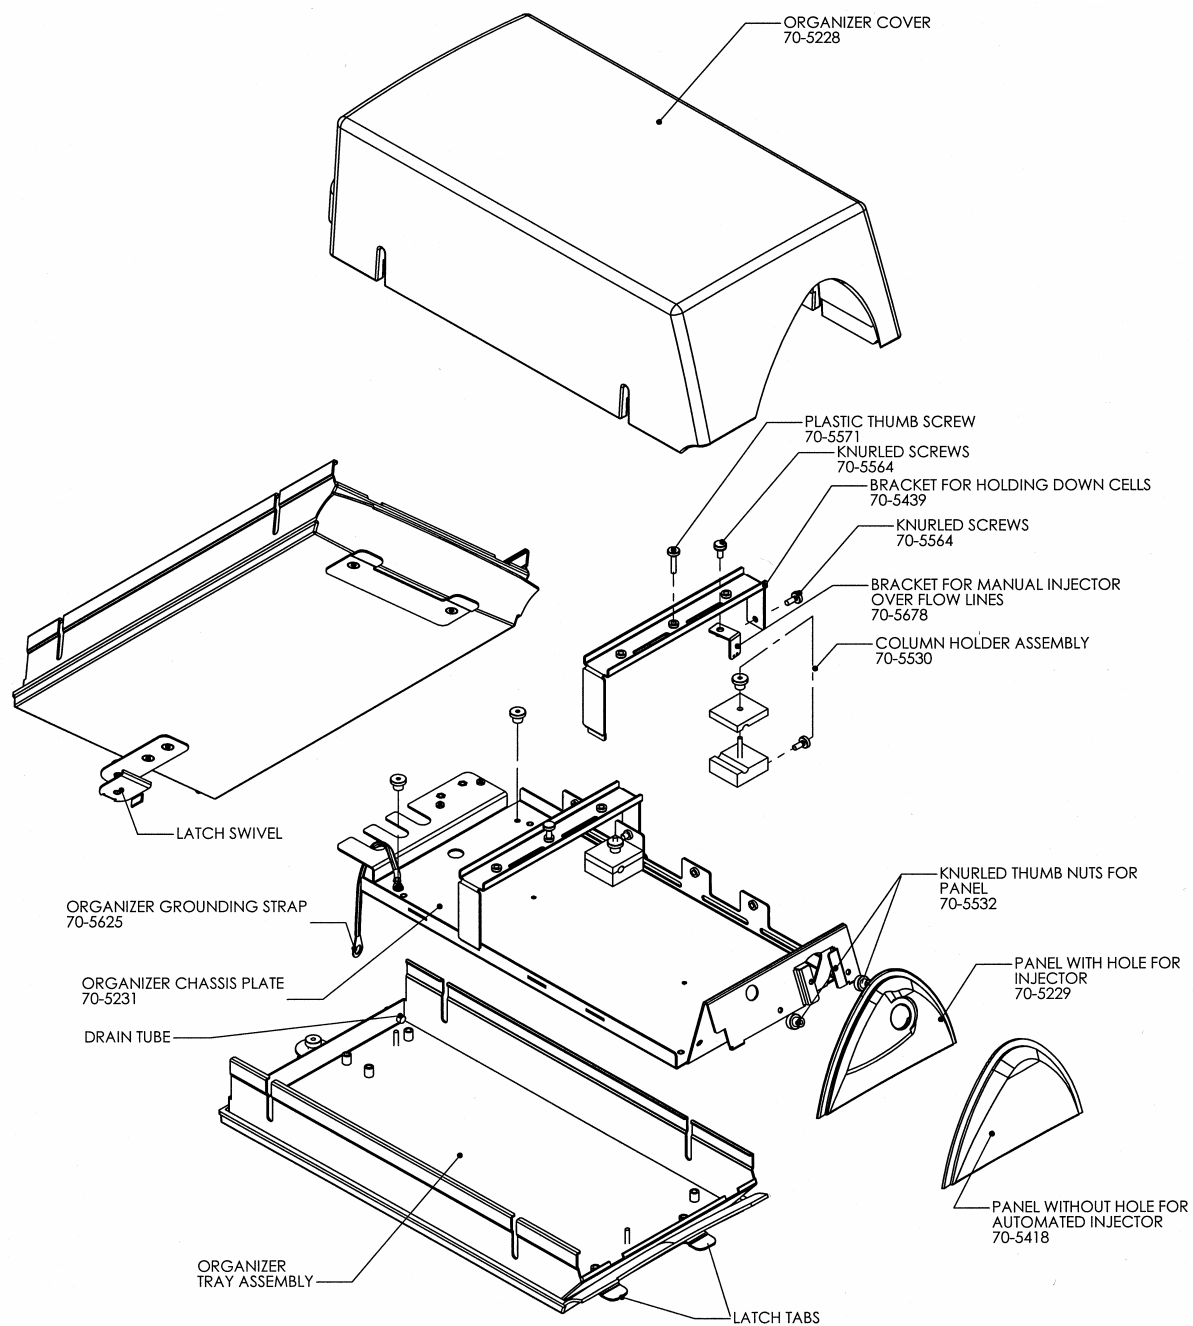

Figure C-1: Exploded View of Corona Organizer Module
The Corona[®] Organizer Module and the Corona Thermal Organizer Module are optional accessories for the Corona[®] CAD[®] and Corona^{®Plus} CAD[®] Detectors, that are designed to accommodate the various components of the fluidics system of the HPLC, such as pulse damper, column(s), in-line filters, a Rheodyne manual sample injector valve, tubing, and associated cables, etc. The organizer module is mounted on top of the detector housing as shown in Figure C-1. The Corona Thermal Organizer Module allows the analyst to maintain the temperature of the column between ambient + 5°C and 60°C.
An exploded view of the entire Corona Organizer Module is shown in Figure C-1.
- b) Connect the Ground Strap Assembly (Part Number 70-5625) to the protruding threaded stud at the left-rear corner of the chassis plate (see Figure C-1). Attach the three knurled thumbnuts, which were removed in Section 5.3.2, and finger tighten.